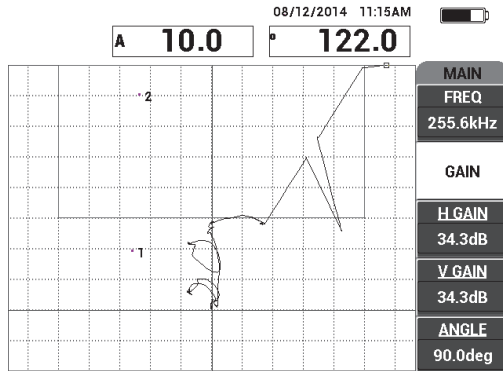

Figure 6-42 The GAIN adjusted to set the higher dot
11. Adjust the **GAIN** (B key) to set the higher dot at approximately 90 % of the screen height (see Figure 6-42 on page 159).